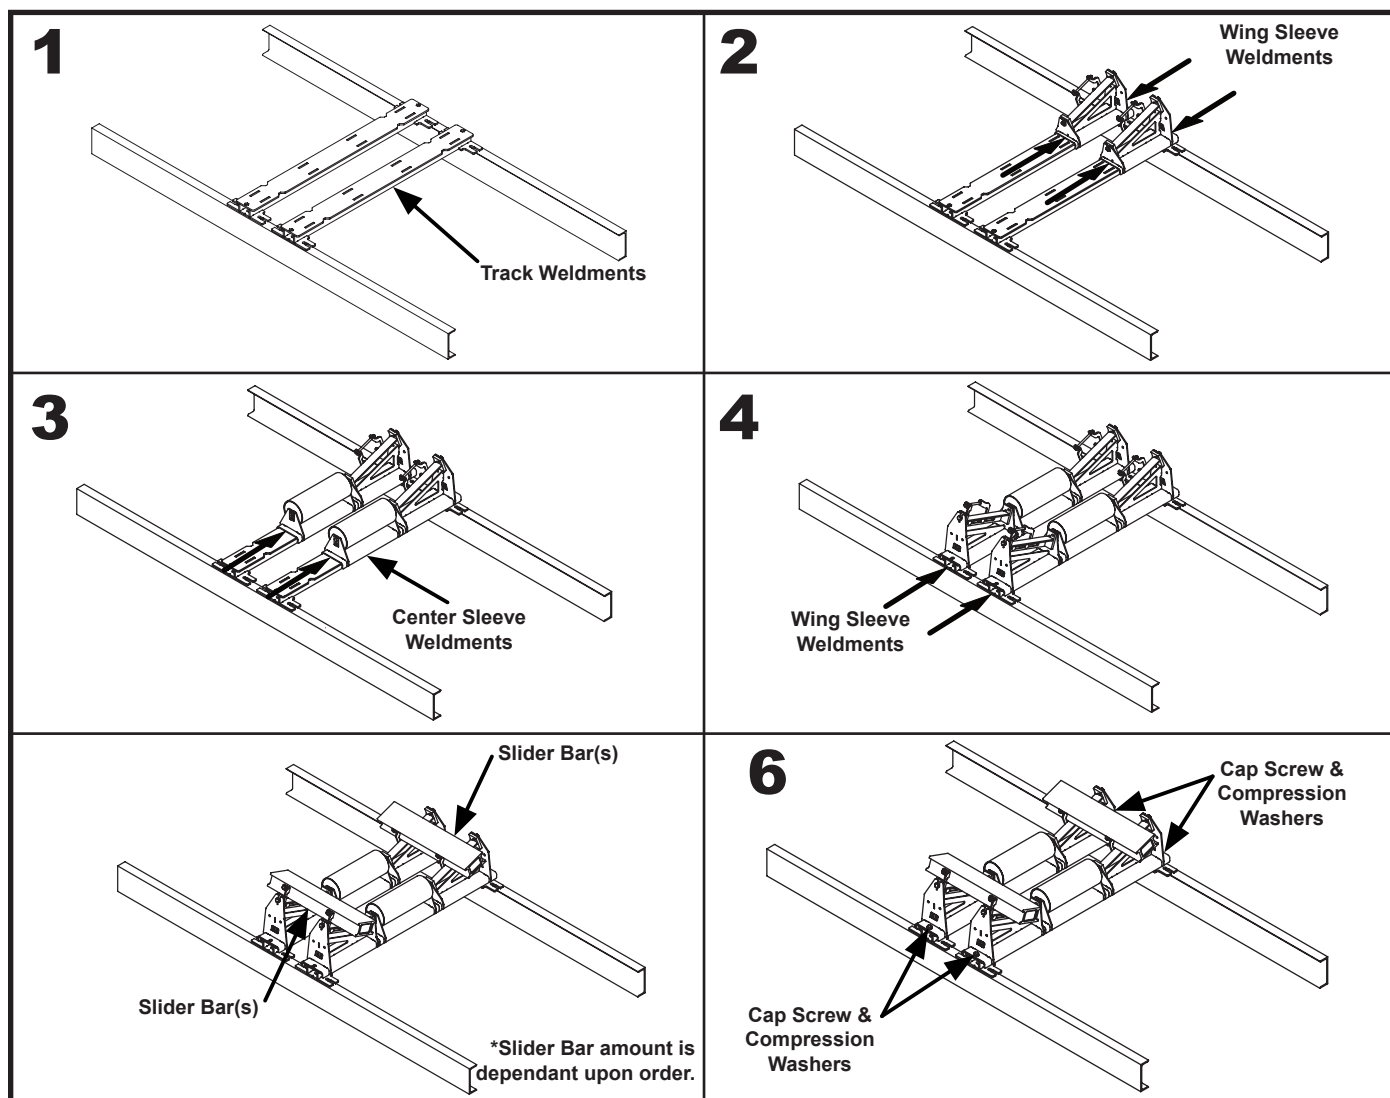

Figure 1. Installing Slider Cradle (Single-Bar Shown)
4. (See Figure 1, Step 1). Attach track weldments to stringers using supplied hardware placing feet of the support on each conveyor stringer on the reference mark from step 3. Make sure track weldment is 90° to belt travel.